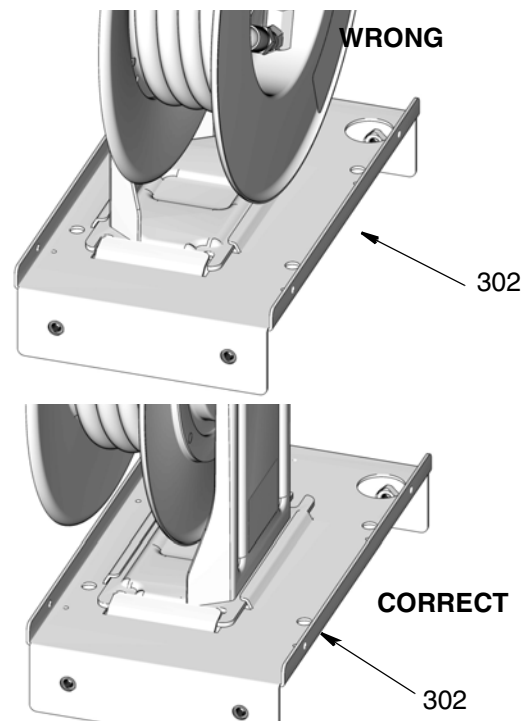

FIG. 5
5. Position reel on base (302), verifying reel is correctly centered on base as shown in FIG. 5
NOTE: Although the reel can be installed on the reel base (302) with the guide arm positioned on the left or the right side, there is only one correct installation position. When the reel is correctly installed in the reel base, the reel will be centered over the base. See FIG. 5 to verify you have installed the reel in the reel base correctly.